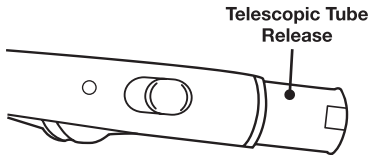

Fig 7
3. To remove the flexible hose, unplug the power cord and then turn the hose. To remove the telescopic tube from the flexible hose, press on the telescopic tube release button and pull it out. (Fig.7)